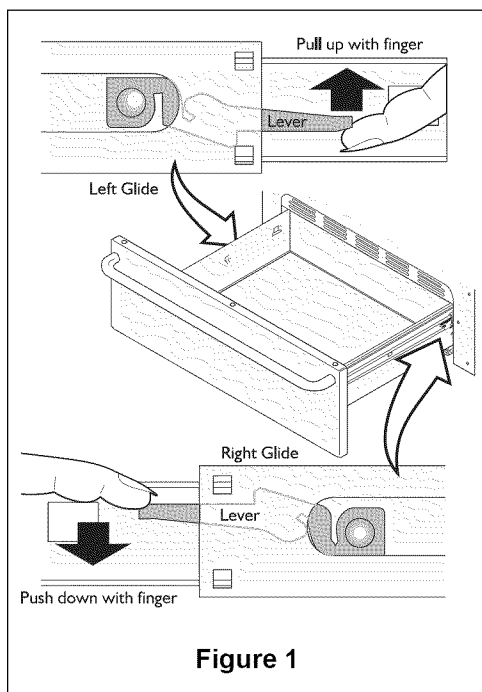

Figure 1
3. Locate glide lever on each side of drawer, pull up on the left glide lever and push down on the right glide lever (see figure 1).